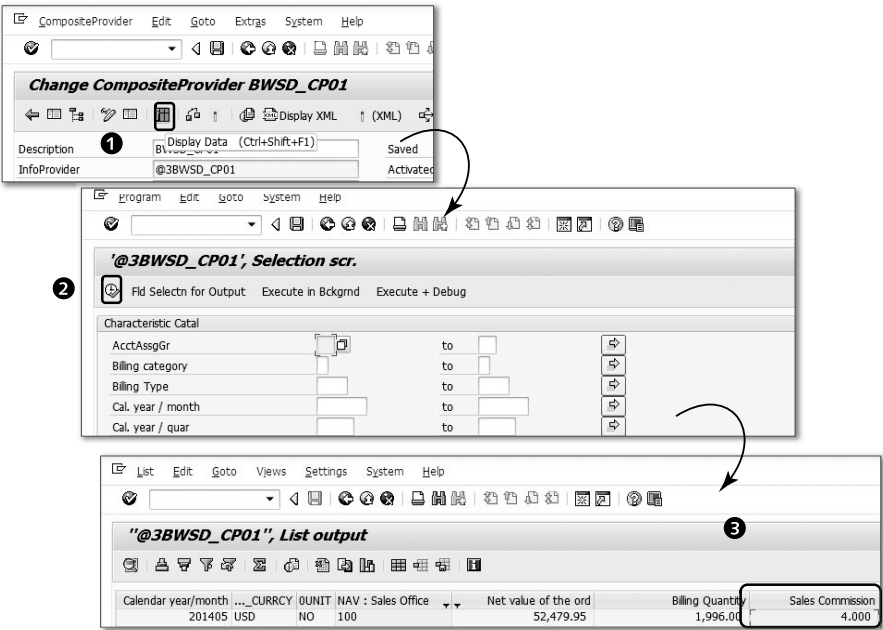

Figure 6.75 Displaying Data from a CompositeProvider
We recommend using the display data functionality to establish information output from the CompositeProvider. Click on the DISPLAY DATA icon (❶ of Figure 6.75) to see the options for filtering the data to be included or excluded in the output ❷. Choose the EXECUTE icon ❸, and check the output ❹.